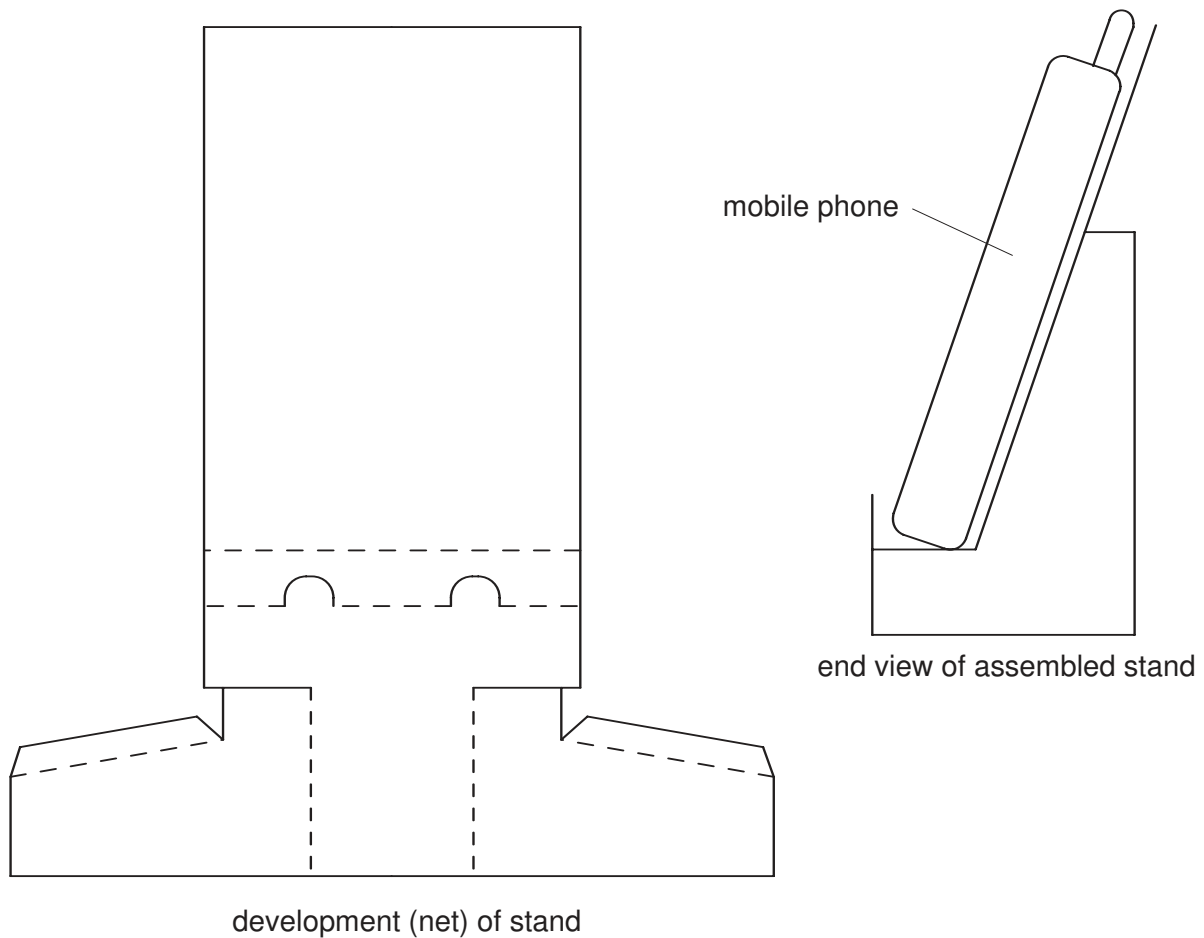

Fig. 2
- 2 Fig. 2 gives details of a point of sale display stand, made from card, for a mobile phone.